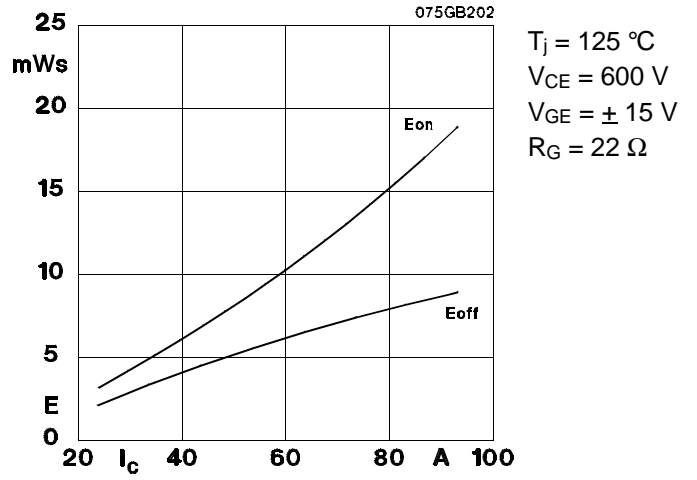

Fig. 2 Turn-on /-off energy  $= f(I_C)$
5) See fig. 2 + 3;  $R_{Goff} = 22\ \Omega$